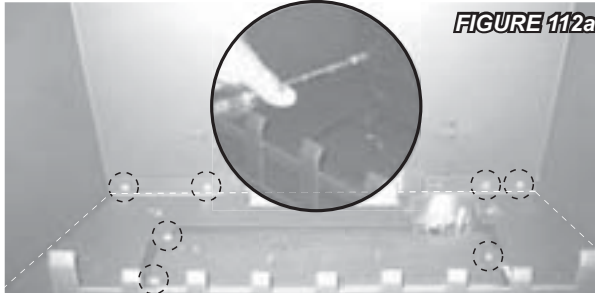

FIGURE 112a
4. Remove the 7 screws illustrated in Fig. 112a and lift out the log support.
5. Remove the 8 perimeter screws as illustrated in Fig. 112a and lift out the burner base. (The gas line flex-connector should provide sufficient movement to permit shifting the burner assembly to the side).